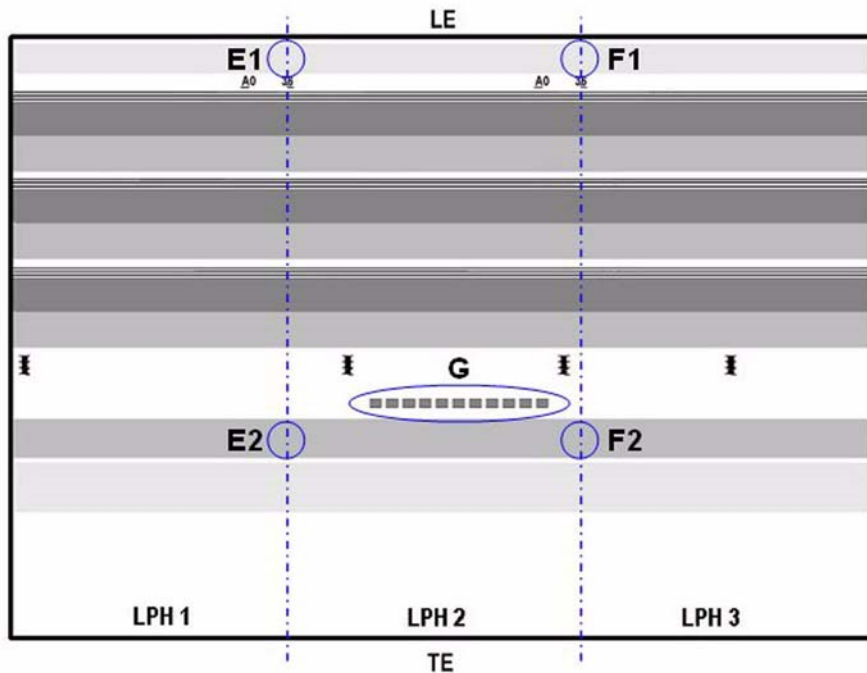

Figure 2 Joint Alignment Check Locations on the Test Print
1. Check for the presence of thin, vertical, white or dark joint lines at locations **E1** and **F1** and at locations **E2** and **F2** on the test pattern (Figure 2).
1. Refer to the defect samples (see area “G” on the test pattern, Figure 2) and identify the defect sample or samples that most closely match the actual joint lines on the test pattern.